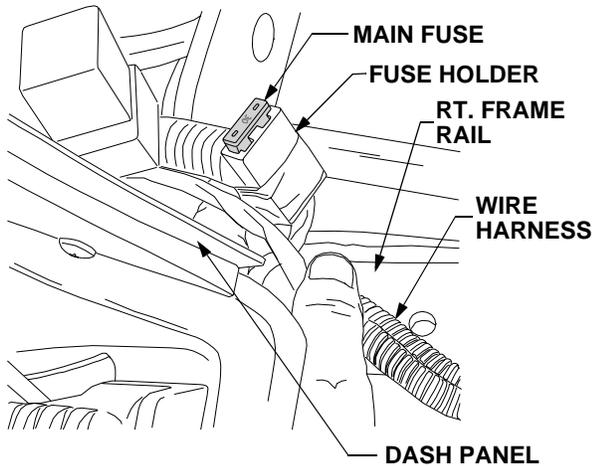

Figure 43
- Locate the main fuse under the dash panel, along the tractor's *right* frame rail. See Figure 43.